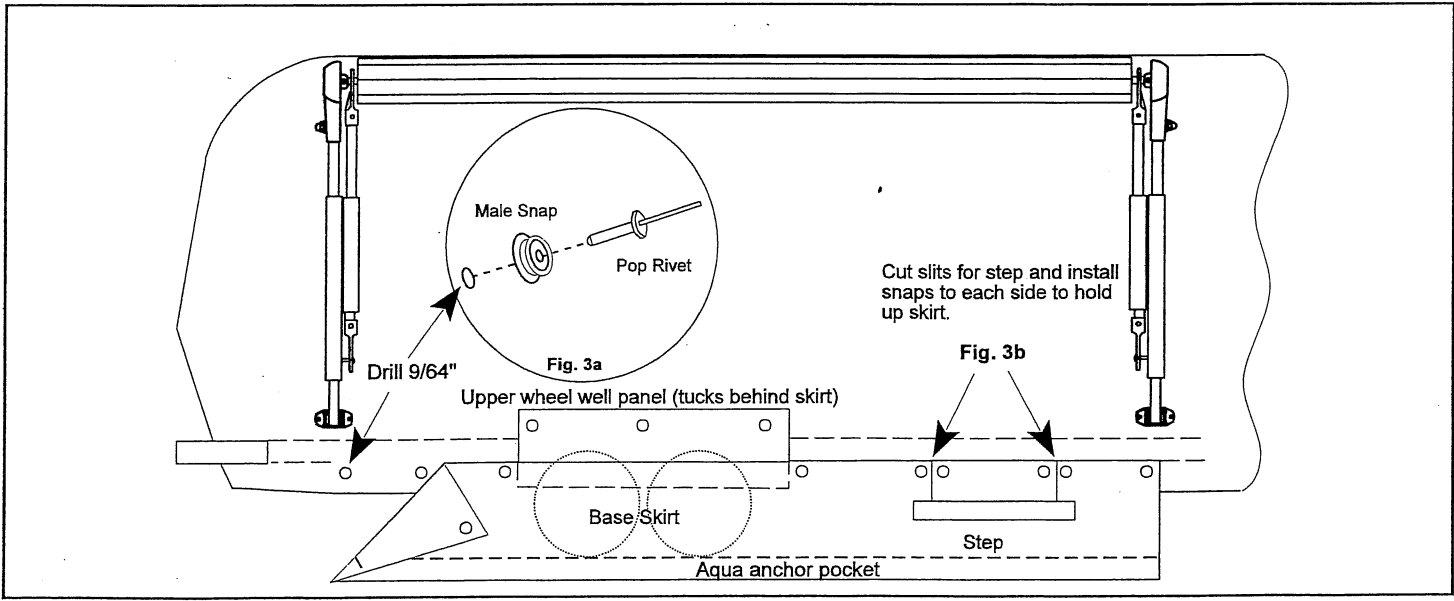

Figure 3
4. **Base skirt.** Attach the Base Skirt to the vehicle starting in line with the inside of the rear main arm, using the male snaps provided. (Fig. 3.) Position the Skirt as shown so that it attaches to the vehicle at the lowest horizontal level possible, below any doorway. This should also be the point from which the skirt was measured for ordering. The seam of the Aqua Anchor pocket should almost be at ground level and the pocket itself laying flat on the ground. Mark the position of the first snap on the vehicle, matching the end button on the skirt, drill a 9/64" hole and attach a Male Snap with a Blind Rivet as shown in Fig.3a. Work from rear to front, installing the snaps in position to match the buttons on the skirt. Snap the button onto each stud as it is installed. Keep the skirt taut between each snap as you progress. Install the upper wheel panel in the same manner after the skirt is installed. This panel tucks behind the skirt, but does not attach to it. If the Panel blocks any skirt snaps, simply do not use those snaps. There are more than enough installed for support.